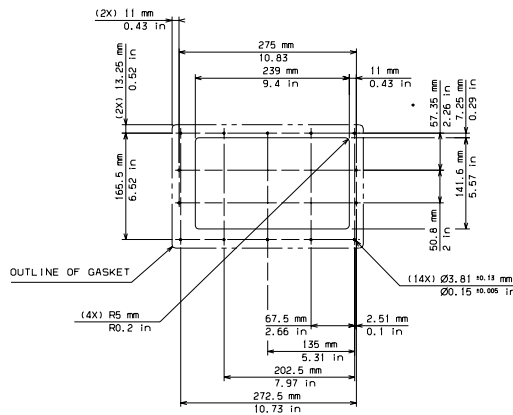

Figure 1-15. Mounting hole template for enclosure installation
1. Use the overall dimensions of the sealing gasket, as shown in Figure 1-15, to procure an enclosure. The enclosure must feature a flat mounting area of at least this size, with at least 100mm (4 inches) of clearance behind that area for clearance of the terminal's connectors and cables.